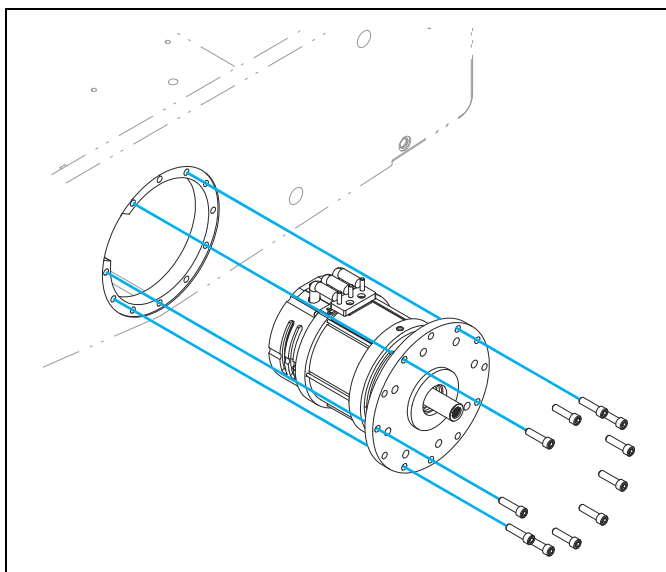

Figure 3-17: Drive Motor Assembly
8. Remove the twelve 1/2-20 X 2 hex socket screws (Item #1) and hardware holding the motor to the motor mount weldment. See Figure 3-17.